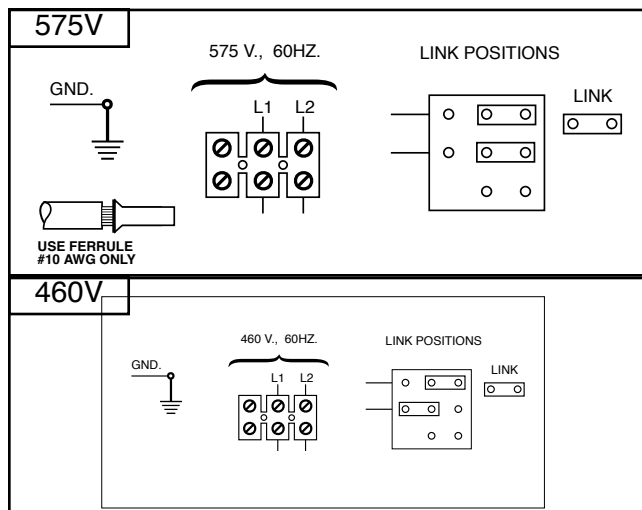

FIGURE A.3b - Voltage Link Positions for 460/575 VAC machines.
2. For 460/575 VAC machines, see Figure A.3b.